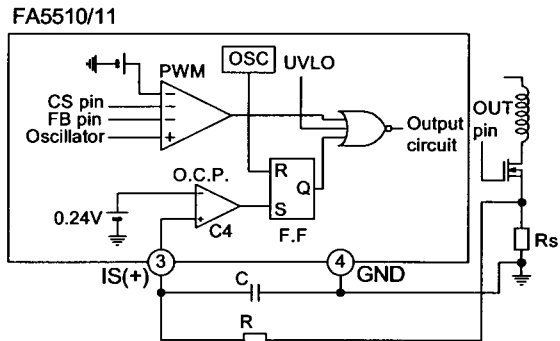
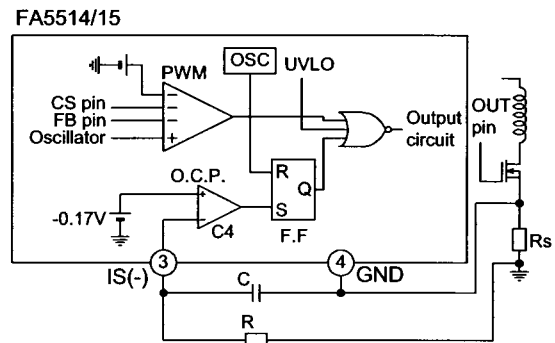
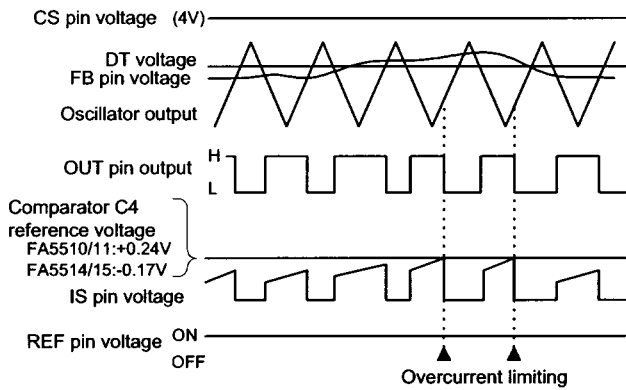

Fig.13 Overcurrent limiting circuit (FA5510/11)
Fig.14 Overcurrent limiting circuit (FA5514/15)
Fig.15 Overcurrent timing chart
The overcurrent limiting circuit detects the peak value of every drain current pulse (pulse by pulse method) of the main switching MOSFET to limit the overcurrent. The detection threshold voltage is +0.24V for FA5510/11 or -0.17V for FA5514/15 with respect to the ground as shown in Figure 13 and Figure 14. The drain current of the MOSFET is converted to voltage by resistor R_s and fed to the IS pin of the IC. If the voltage exceeds the reference voltage +0.24V (FA5510/11) or -0.17V (FA5514/15) of comparator C4, comparator C4 works to set flip-flop output Q to high. The output is immediately turned off to shut off the current. Flip-flop output Q is reset on the next cycle to turn on the output again. This operation is repeated to limit the overcurrent.
If the overcurrent limiting circuit malfunctions due to noise, place an RC filter between the IS pin and MOSFET as shown in Figure 13 and Figure 14. (See item 12 in "Design advice.") Figure 15 is a timing chart that illustrates overcurrent-limiting operations.